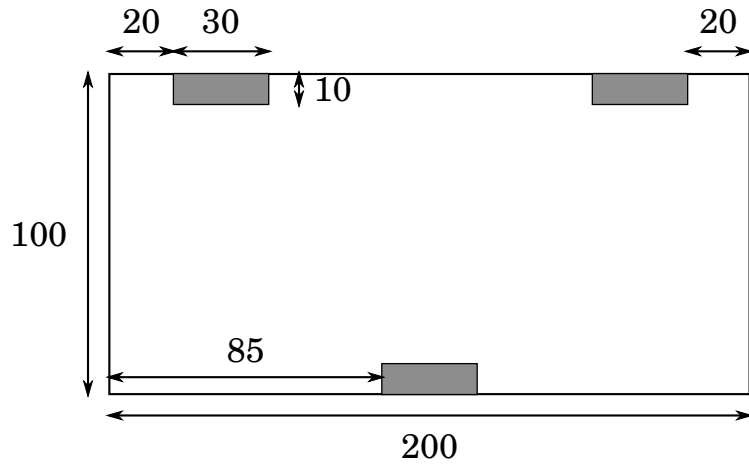

Figure 2: The dimensions of the required robot badge mountings. The shaded areas are hook-type Velcro. All dimensions are in millimetres.
3.2.2 A robot must feature four of the badge mounts shown in figure 2. These mounts must permit a flat $200 \times 100mm$ panel to be attached to them. The three areas of each mount must feature the illustrated areas of hook-type Velcro to allow this panel to be fitted.